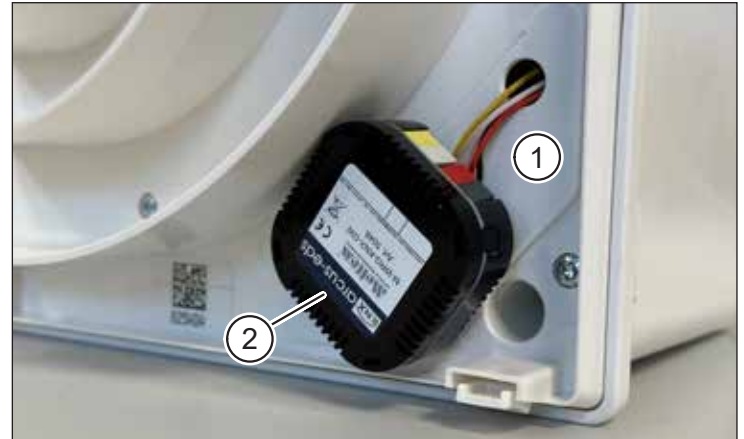

Fig. 3: Replace the network connection cover
- ▶ Replace the existing network connection cover with the version with the cable lead-through (item 1 in Fig. 3, supplied as standard).
- ▶ Secure the gateway (item 2 in Fig. 3) to the network connection cover (item 1 in Fig. 3) using the Velcro strip provided.